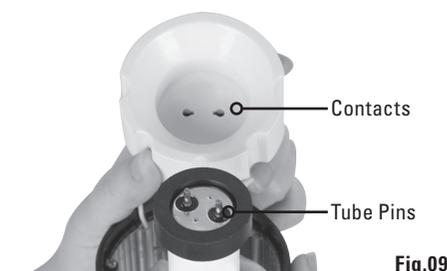

Fig.09
8. Fit the top lampholder over the fluorescent tube, ensuring that the connecting pins mate correctly with the lampholder contacts Fig.09.